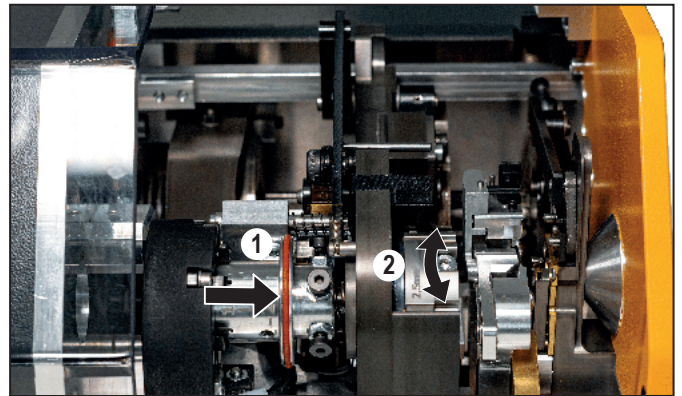

Figure 6.4 Set the cross-section
- Press and hold the adjusting cylinder to the right, see Figure 6.4, 1.
- Turn the adjusting cylinder until the crimp cylinder snaps in at the desired die size, see Figure 6.4, 2.